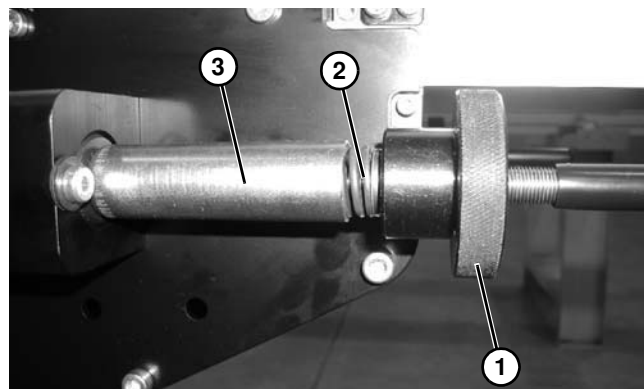

Figure 94
1. To tension belt, turn knurled knob (**Figure 94, item 1**) on each side of center drive unit clockwise until tensioning spring (**Figure 94, item 2**) is exposed only 12 mm (1/2"). Test conveyor with a load and if slippage occurs, turn knurled knob (**Figure 94, item 1**) on each side of center drive unit clockwise until tensioning spring (**Figure 94, item 2**) is completely behind spring cover (**Figure 94, item 3**). There should be a minimum 3 mm (1/8") gap between hand knob (**Figure 94, item 1**) and spring cover (**Figure 94, item 3**).
2. As normal belt stretch occurs over time, additional spring length (**Figure 94, item 2**) will be exposed out of the spring cover (**Figure 94, item 3**). When the spring exposed exceeds 12 mm (1/2") from the original setting or if conveyor belt slippage occurs, retighten knurled hand knob (**Figure 94, item 1**) on each side of center drive unit clockwise to the original setting.